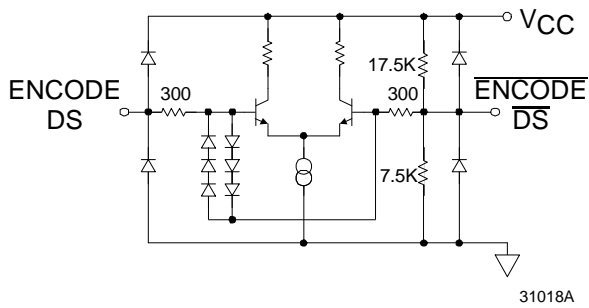

Figure 5. Equivalent Encode and Data Select Input Circuit
ENCODE and Data Select (DS) can be driven differentially or single-ended. For single-ended operation, the complement inputs (ENCODE $\bar{}$, DS $\bar{}$) are internally biased to V_{DD}/3 (~1.5V) by a high-impedance on-chip resistor divider (Figure 5), but they may be externally driven to establish an alternate threshold if desired. A 0.1 μ F decoupling capacitor to ground is sufficient to maintain a threshold appropriate for TTL or CMOS logic.
Note the 6-diode clock input protection circuitry in Figure 5. This limits the differential input voltage to $\sim \pm 2.1\text{V}$. When the diodes turn on, current is limited by the 300 Ω series resistor. Exceeding 2.1V across the differential inputs will have no impact on the performance of the converter, but be aware of the clock signal distortion that may be produced by the nonlinear impedance at the converter.